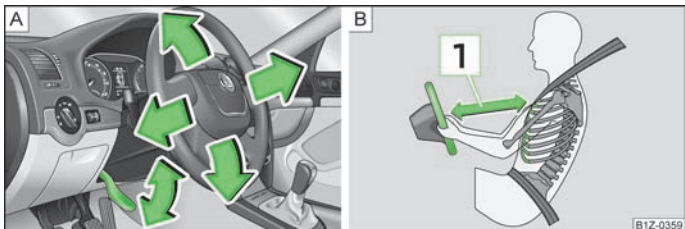

Fig. 93 Adjustable steering wheel: Lever below the steering wheel/safe distance to the steering wheel
- Pull the lever below the steering wheel down » Fig. 93 - A.